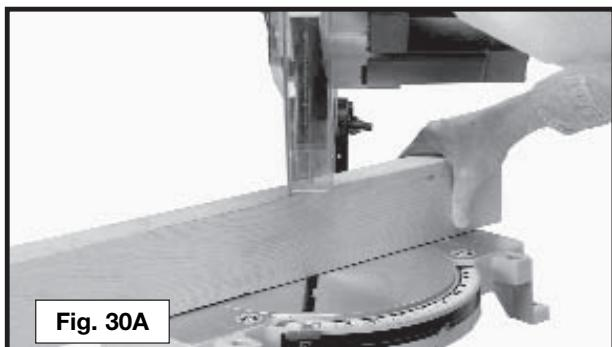

Fig. 30A
1. Your machine has the capacity to cut standard 2 x 4's lying flat or on edge, at the 45° right and left miter angles (Fig. 30A).